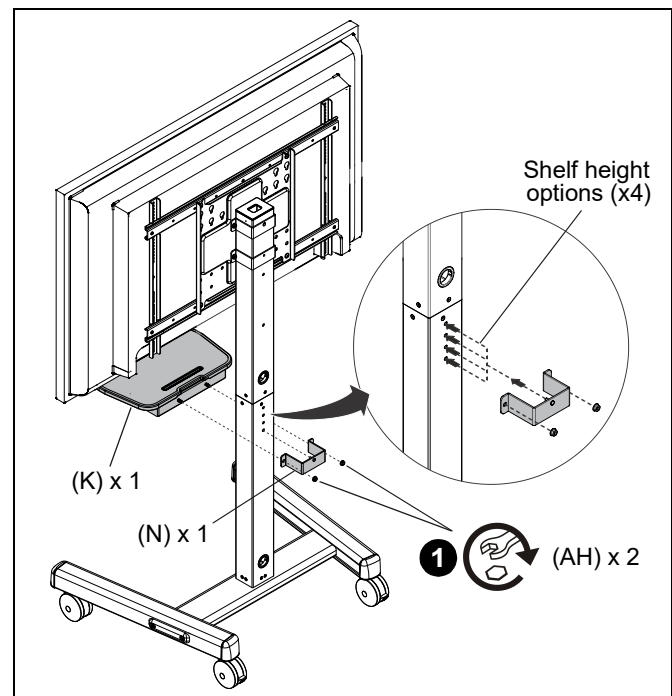

Figure 17
1. Install the shelf assembly (K) to the front of the lower column (Q) using one stud connector (N) and two 5/16-18" hex nuts (AH). (See Figure 17)
NOTE: The shelf assembly (K) can be installed in four different positions to achieve the desired height. (See Figure 17)